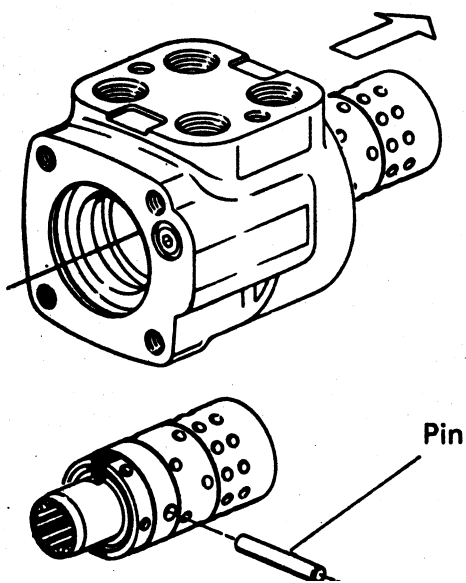

Figure 5
12. Remove spool and sleeve assembly from 14 hole end of housing, see Fig. 5.